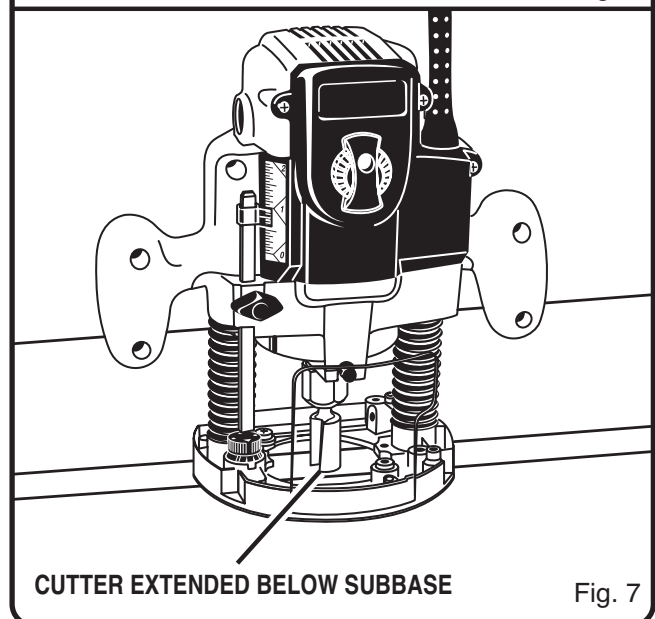

Fig. 7
- Position your router so that the cutter can extend below the subbase for desired depth setting. See *Figure 7*.